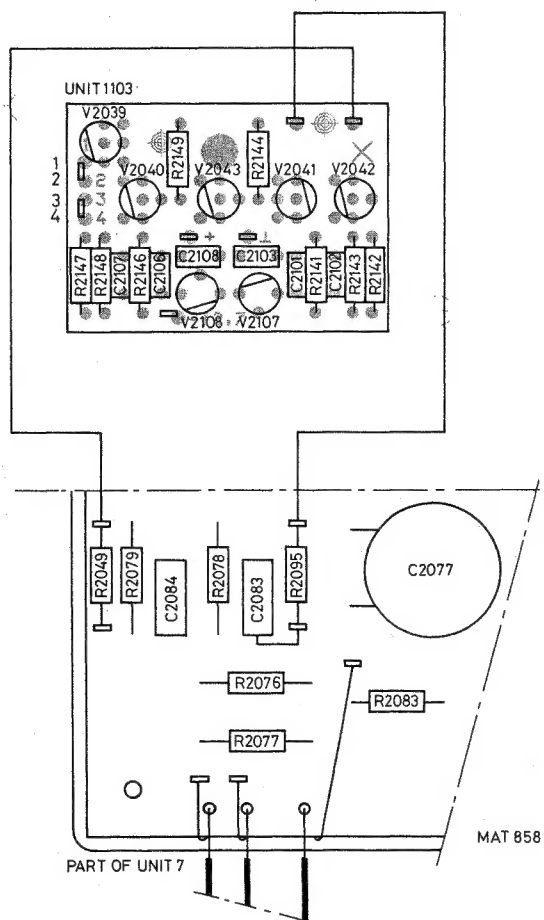

Fig. 8 P.c.b. lay-out of unit 1103 with alternative circuit
For ordering numbers of units see fig. 8.
This modification will not be necessary as far as it is expected now. However, in case of horizontal defocusing after CRT-replacement the necessary modifications are available. These modifications must mainly be carried out on unit 1103. The necessary space for the new components is already available on unit 1103. The modified unit is indicated in fig. 8. The circuit diagram of the modified unit is indicated in fig. 4 as "alternative circuit in case of insufficient horizontal focusing".
- Remove V2039 and remount it in its socket as indicated in fig. 8.